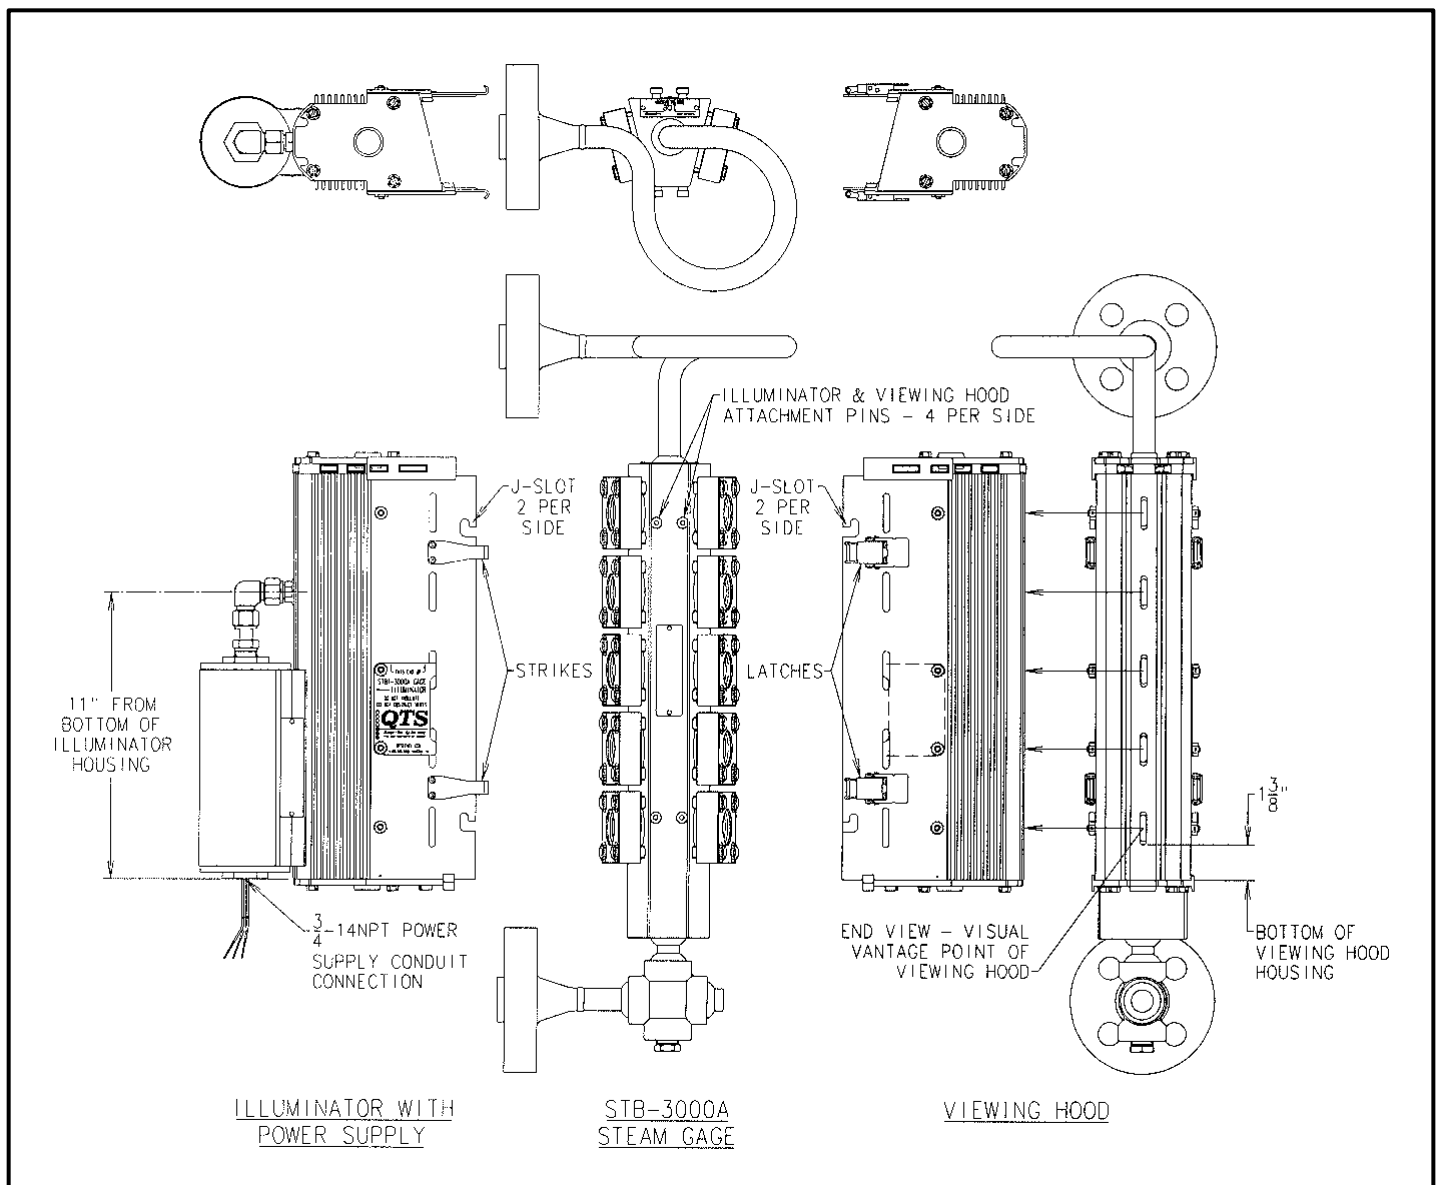
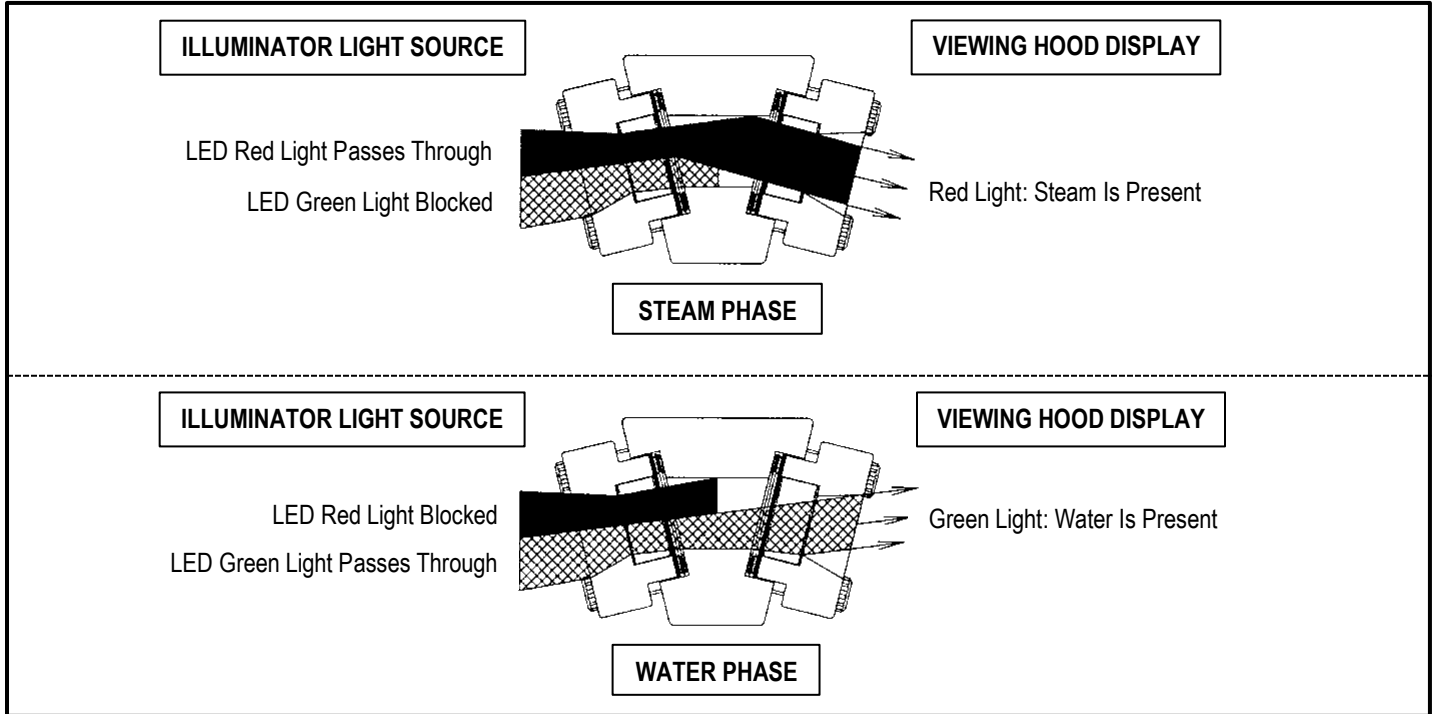
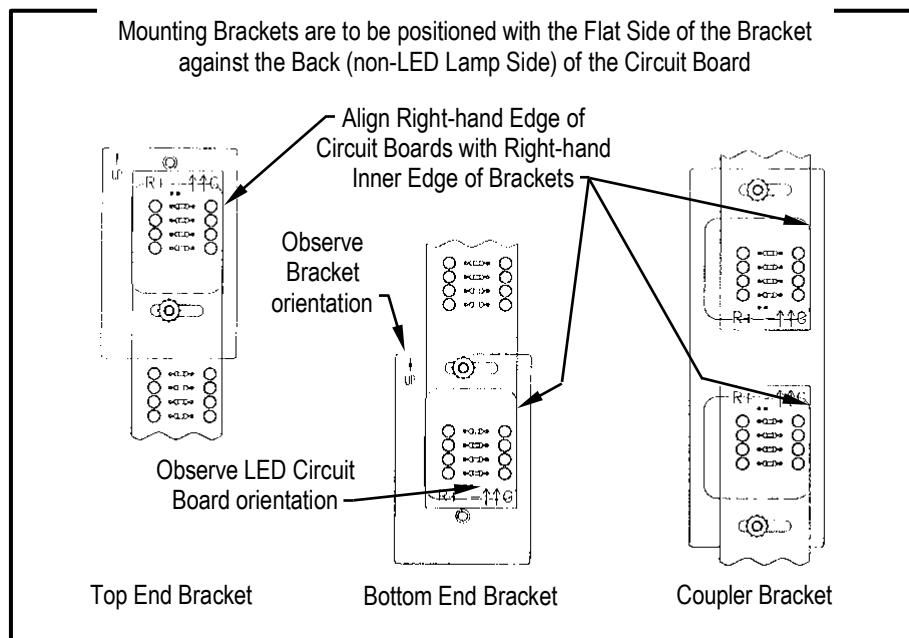

Figure 1. STBI-3000A Illuminator & Viewing Hood Attachment and Fastening Points to STB-3000A Steam Gage
Figure 2. Diagram of Illuminator Light Refraction through Gage Chamber and Indicated Level Position of Fluid Phase
Figure 4. Orientation of LED Circuit Boards and Mounting Brackets Prior to Assembly
Figure 1 below depicts a typical STB-3000A Steam Gage arrangement (a 5-port gage is shown) with the STBI-3000A Illuminator & Viewing Hood Assembly unattached to the Steam Gage. The Assembly attachment and fastening points are shown in Figure 1 below.
The STB-3000A Steam Gage Chamber has a central passageway through which steam and water can rise and fall. On opposing sides of the Chamber are flange-retained Glass Ports that are set at precise angles to cause refraction of the light emitted from the Red and Green LEDs inside of the Illuminator. The emitted light passes through the Illuminator-side Ports of the Gage, through the fluid in the Gage Chamber and exits through the Viewing Hood-side Ports of the Gage. The emitted light is visible through the Slots in the Viewing Hood from vantage point shown in Figure 1. The STBI-3000A Illuminator & Viewing Hood Assembly is designed such that through refraction, fluid in the steam phase will allow passage of only the light in the Red spectrum and, when in the water phase, will allow passage of only the light in the Green spectrum. Figure 2 shows this principle of refracted light through the Gage Chamber and the indication of fluid phase level.
IMPORTANT: The configuration (type, size, length and position) of the STB-3000A Steam Gage vessel and drain connections were manufactured according to the Purchaser’s specifications. When installed, the Gage configuration establishes the mounting locations of the Illuminator and the Viewing Hood relative to other equipment and structures that may be present in the installation area. The Illuminator and Viewing Hood have ONE CORRECT ATTACHMENT POSITION ON THE STEAM GAGE; they are NOT reversible nor invertible. Figure 1 depicts the attachment locations relative to the Gage Chamber cross-sectional shape and Port locations.
1. Attach Illuminator – Align the Horizontal Leg of the J-Slots in the Illuminator Side Panels (Items 7) with the Shoulder Screw Attachment Pins (Items 31) of the Gage Chamber; there are four (4) attachment points on each side of the Gage Chamber. Engage the J-Slots with the Pins, slide the Illuminator inward toward the Gage and allow the Illuminator to drop down slightly to engage the vertical “Hook” portion of the J-Slots. The Illuminator-to-Gage Attachment Points are shown in Figure 1.
2. Attach Viewing Hood – Swing the Levers of the Latches (Items 23) outward on both Viewing Hood Side Panels (Items 7) to unlock and allow free movement of the Latch Bales. Swing the Bales outward to prevent interference with the Illuminator Strikes (Item 24) when attaching the Viewing Hood. Attach the Viewing Hood the Gage Chamber as described for the Illuminator (above); refer to Figure 1.
1. Attach Side Panels to Illuminator Housing - Align Hex Flats of the Cap Screws (Items 26) with the Internal Channel Slot in the End of the Illuminator Housing (Item 1) and slide-in the quantity of screws corresponding to the quantity of Bolt Holes in the Side Panel (Item 7). Orient the first Side Panel being attached as shown in Figure 1, place it against the Side of the Illuminator Housing next to where the Cap Screws are projecting from the Housing and align the Bottom Edge of the Side Panel with the Bottom Edge of the Illuminator Housing. Reposition the Cap Screws to line-up with the Panel Bolt Holes. Engage the Panel Bolt Holes with the Cap Screws then install Lock Washers (Items 27) onto the Cap Screws. Thread Hex Nuts (Items 28) onto the Cap Screws. While maintaining alignment of the Bottom Edges of the Side Panel and the Housing, tighten the Hex Nuts to 30 in-lbs. applied torque – DO NOT OVER-TIGHTEN. Repeat this process for the attaching the remaining Side Panel to the Opposite Side of the Illuminator Housing.
IMPORTANT: IT IS CRITICAL TO THE PROPER REFRACTION OF THE LIGHT EMITTED BY THE ILLUMINATOR THAT THE LED CIRCUIT BOARD(S) AND MOUNTING BRACKETS ARE ASSEMBLED TOGETHER EXACTLY AS SHOWN IN FIGURE 4 ABOVE.
Place the LED Circuit Board (Item 18) on a flat horizontal surface and orient the Board with LED Lamps facing outward and the Printed Arrows on the Board pointing upward. Beneath the Bottom End of the LED Board, position the Bottom End Mounting Bracket (Item 12) with Engraved Arrow pointing upward and the Flat Side of the Mounting Bracket against the Back (Non-Lamp) Side of the LED Board. Align the Upper Threaded Hole of the Mounting Bracket with Slot in the LED Board as shown in Figure 4. Place Lock Washer (Item 21) on Machine Screw (Item 22), install thru the LED Board Slot and thread into the Upper Threaded Hole in the Mounting Bracket; do not yet fully tighten. Repeat this process for the Top End of the LED Circuit Board and the Top End Mounting Bracket. NOTE: The Top and Bottom Mounting Brackets (Items 12) are identical however the Top End of the LED Board is fastened to the Lower Threaded Hole of the Top End Mounting Bracket as shown in Figure 4. With both Brackets attached, align the Right-hand Edge of the LED Board with the Inner Right-hand Edges of the Mounting Brackets and fully tighten the Machine Screws.
1. Place the LED Circuit Boards (Items 18) on a flat horizontal surface. Position the LED Boards in a “String” in the order in which they are to be attached to each other. NOTE: When connecting LED Boards having unequal overall lengths, their relative positioning has no effect on the Illuminator function. However, it is recommended that the Longer LED Boards be positioned at the Bottom of the Board String such that when installed, they will be nearest to the Bottom of the Assembled Illuminator. Orient the Boards with LED Lamps facing outward and the Printed Arrows on the Boards pointing upward. Beneath the Bottom End of the Lowest LED Board in the String, position the Bottom End Mounting Bracket (Item 12) with Engraved Arrow pointing upward and the Flat Side of the Mounting Bracket against the Back (Non-Lamp) Side of the LED Board. Align the Upper Threaded Hole of the Mounting Bracket with Slot in the LED Board as shown in Figure 4. Place Lock Washer (Item 21) on Machine Screw (Item 22), install thru the LED Board Slot and thread into the Upper Threaded Hole in the Bottom Mounting Bracket; do not yet fully tighten. Repeat this process for the Top End of the Uppermost LED Board in the String and the Top End Mounting Bracket. NOTE: The Top and Bottom Mounting Brackets are identical however the Uppermost LED Board is fastened to the Lower Threaded Hole of the Top End Mounting Bracket as shown in Figure 4.
- B. Install Electrical Primary Cable: From the exterior of the Illuminator Housing (Item 1), insert the SMALL FEMALE CONNECTOR END of the Primary Electrical Cable (Item 9) thru the previously installed Tube Adapter Fitting (Item 15A1). Gently pull the Cable through the Tube Adapter and into the Interior of the Illuminator Housing until about 3” of Cable (including the length of the Male End Connector) remains exposed from the End of the Tube Adapter. Where the Cable enters the Interior of the Illuminator Housing (just beyond the Hex Pipe Nut (10)), make a small bend in the Cable then route the Cable along the Inside of the Illuminator Housing Wall Channel and to the Bottom End and out of the Illuminator Housing.
7. Fasten Lower End Cap to Illuminator Housing – Apply lubricant to the four (4) Cap Screws (Items 8) according to *DISASSEMBLY/PARTS REPLACEMENT/REASSEMBLY – Important Disassembly/Reassembly Notes* Section in this Manual; set Cap Screws aside for later use.
- A. The Diagonal Edge of the Lower End Cap (Item 5A or 5B) MUST be oriented the direction shown in the Top View of Figure 1 (the Upper End Cap (Item 4), Vent Plate (Item 3) and the Lower End Cap are all positioned with their Diagonal Edge oriented in the same direction). When correctly oriented, the Longer Side of the Lower End Cap will be positioned on the “Front Side” of the Illuminator Housing (Item 1) relative to the previously installed Electrical Fitting (Items 15A1) or, as applicable, the Power Supply Unit Cover (Item 15B3) being on the “Left Side” of the Housing; refer to Figure 1.
8. Install Cushion Cords, Vent Plate and Upper End Cap – It is highly recommended that the Illuminator Sub-assembly to be oriented upright in its normal operating position when installing these Components. Apply lubricant to the four (4) Cap Screws (Items 8) according to *DISASSEMBLY/PARTS REPLACEMENT/REASSEMBLY – Important Disassembly/Reassembly Notes* Section in this Manual; set Cap Screws aside for later use.
- C. The Diagonal Edges of the Vent Plate (Item 3) and Upper End Cap (Item 4) MUST be oriented the direction shown in the Top View of Figure 1. When correctly oriented, the Longer Side of both Parts will be positioned on the “Front Side” of the Illuminator Housing relative to the previously installed Electrical Fitting (Items 15A1) or, as applicable, the Power Supply Unit Cover (Item 15B3) being on the “Left Side” of the Housing; refer to Figure 1.
- D. Align the Bolt Holes of the Vent Plate with those in the End of the Illuminator Housing and engage the Panel Guide Slots of the Vent Plate with the Top Edges of the Side Panels (Items 7). Place the Upper End Cap on top of the Vent Plate and align the Bolt Holes. Install the four (4) previously lubricated Cap Screws (Items 8) thru the Bolt Holes of the Upper End Cap and Vent Plate and thread into the Illuminator Housing. Tighten the Cap Screws hand-tight.